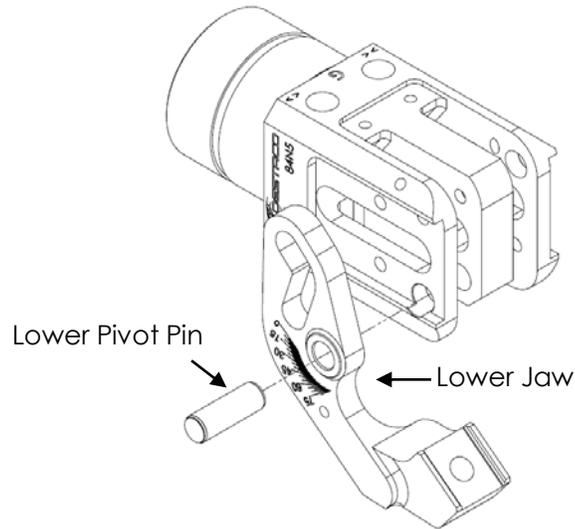
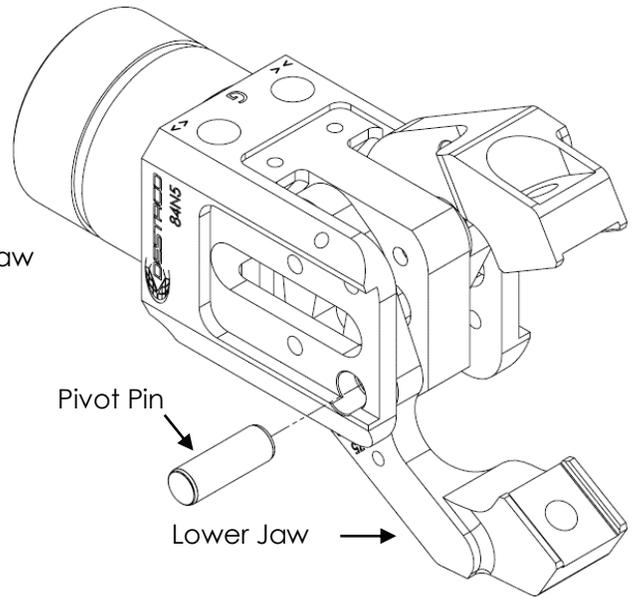

Fig.11
Fig.14
- Repeat the above step (5) for lower jaw (see Fig.11).
- Repeat the above step (7 & 8) for the lower jaw (see Fig.11 & Fig.14).